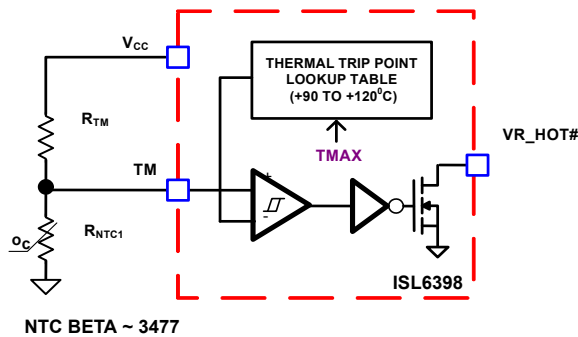
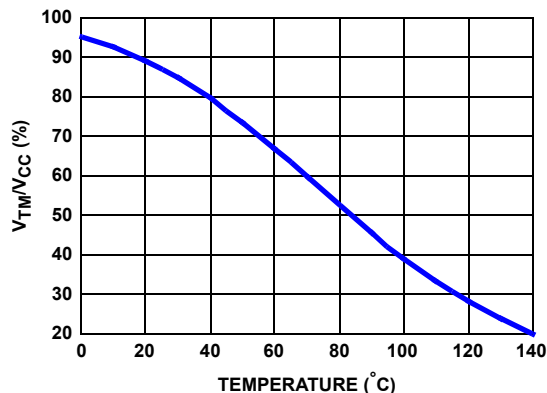

FIGURE 20. BLOCK DIAGRAM OF THERMAL MONITORING FUNCTION
FIGURE 21. THE RATIO OF TM VOLTAGE TO NTC TEMPERATURE WITH RECOMMENDED PARTS
The block diagram of thermal monitoring function is shown in Figure 20. One NTC resistor should be placed close to the respective power stage of the voltage regulator VR to sense the operational temperature, and pull-up resistors are needed to form the voltage dividers for the TM pins. As the temperature of the power stage increases, the resistance of the NTC will reduce, resulting in the reduced voltage at the TM pin. Figure 21 shows the TM voltage over the temperature for a typical design with a recommended 6.8k Ω NTC (P/N: NTHS0805N02N6801 from Vishay, $b = 3477$) and 1k Ω resistor R_{TM} . It is recommended to use those resistors for the accurate temperature compensation since the internal thermal digital code is developed based upon these two components. If a different value is used, the temperature coefficient must be close to 3477 and R_{TM} must be scaled accordingly. For instance, NTC = 10k Ω ($b = 3477$), then R_{TM} should be $10k\Omega / 6.8k\Omega * 1k\Omega = 1.47k\Omega$.
There is a comparator with hysteresis to compare the TM pin voltage to the threshold set by the TMAX register (programmable via PMBus E8[2:0]) for VR_HOT# signal. With TMAX set at +100°C, the VR_HOT# signal is pulled to GND when TM voltage is lower than 39.12% of V_{CC} voltage, and is open (pulled high through TM) when TM voltage increases to above 40.98% of V_{CC} voltage. The comparator trip point will be programmable by TMAX values. Figure 21 shows the operation of those signals.
Based on the V_{CC} voltage, the ISL6398 converts the TM pin voltage to a 6-bit TM digital signal for temperature compensation. With the non-linear A/D converter of ISL6398, the TM digital signal is linearly proportional to the NTC temperature. For accurate temperature compensation, the ratio of the TM voltage to the NTC temperature of the practical design should be similar to that in Figure 21.
When a different NTC type or different voltage divider is used for the TM function, the TCOMP voltage can also be used to compensate for the difference between the recommended TM voltage curve in Figure 21 and that of the actual design. If the same type NTC ($\beta = 3477$) but different value is used, the pull-up resistor needs to be scaled, as shown in Equation 20:
1. Properly choose the voltage divider for the TM pin to match the TM voltage vs temperature curve with the recommended curve in Figure 21.